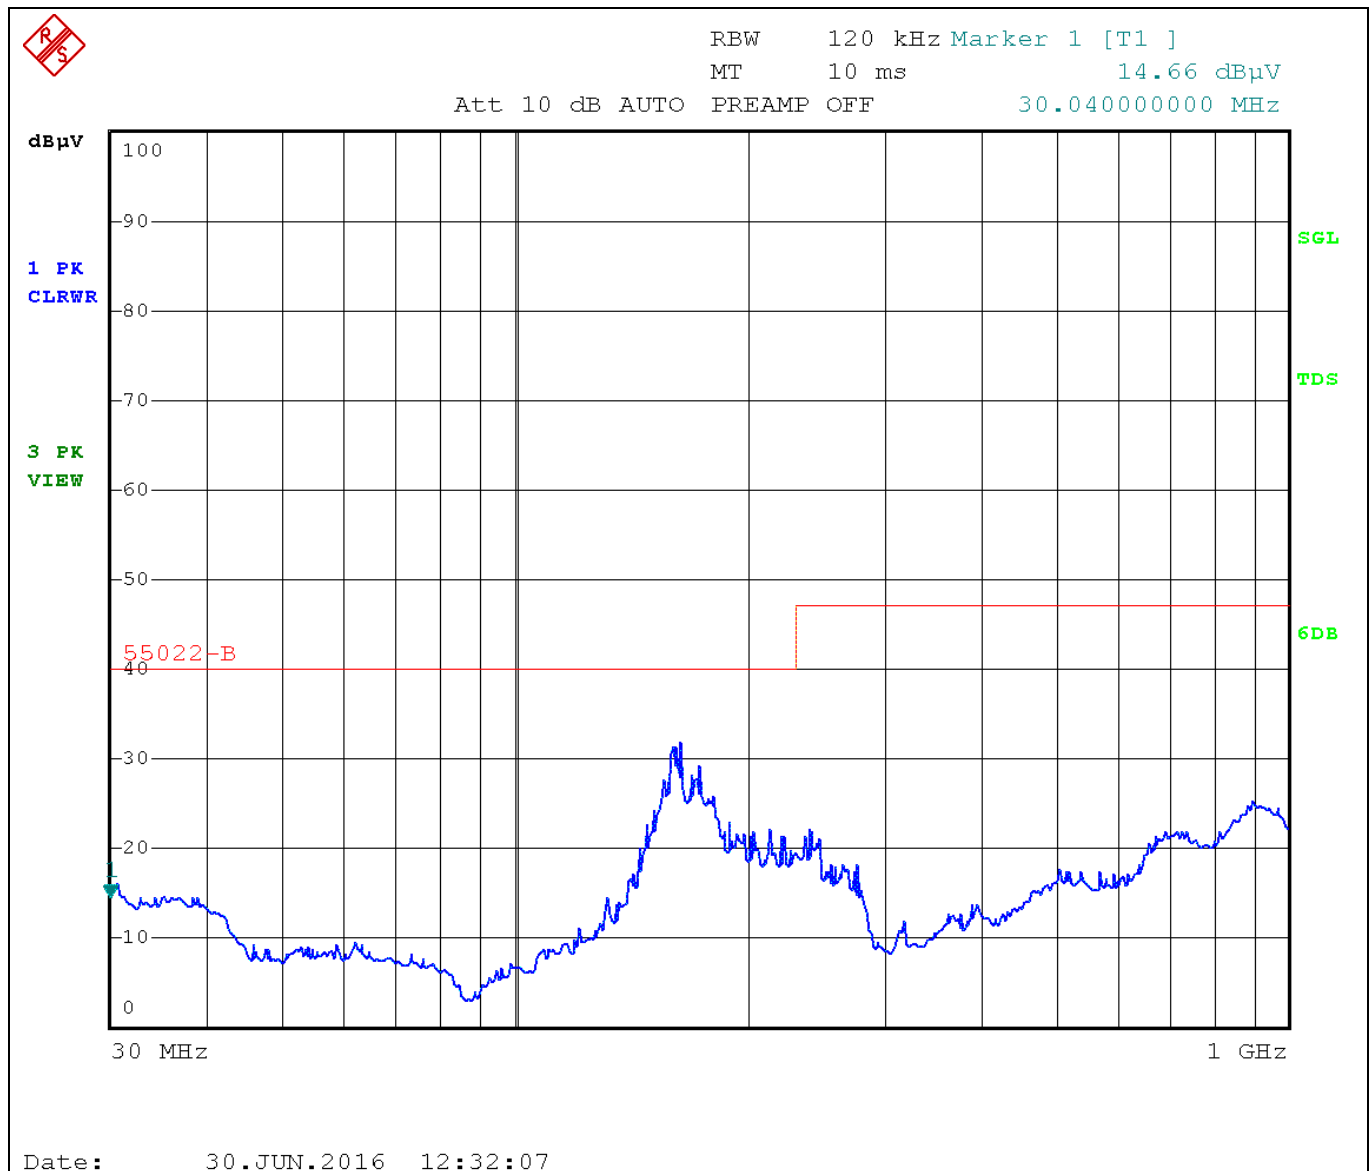

Figure 18 EMI-radiated measurement results. Board positioned toward antenna. Antenna position is horizontal.
- Board was positioned toward the antenna and the antenna was horizontal (Figure 18)